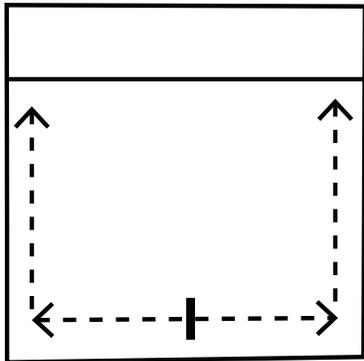

Figure 4
5. Pin pocket in position on garment. Topstitch in place beginning at center of bottom and stitch to top of pocket on each side (Figure 4).